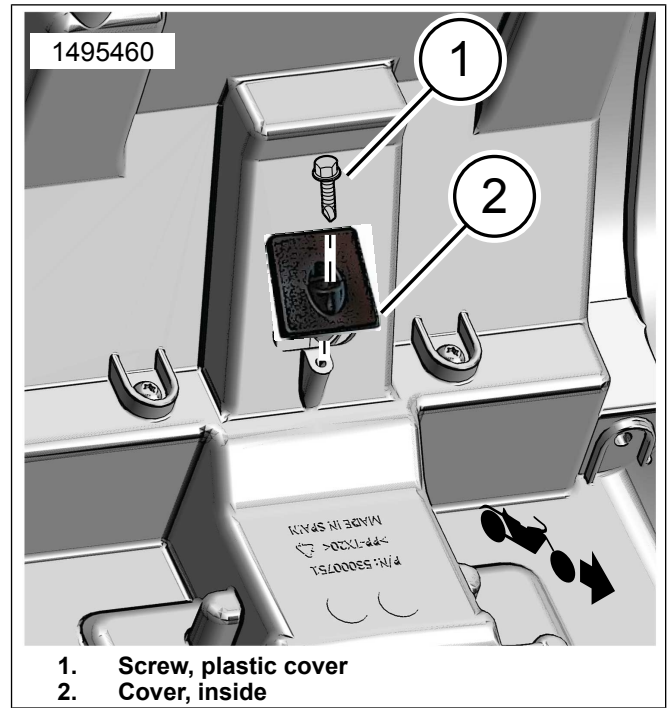

Figure 10. Inside Cover Install
- Figure 10 Install cover (2) and screw (1). Hand tighten.